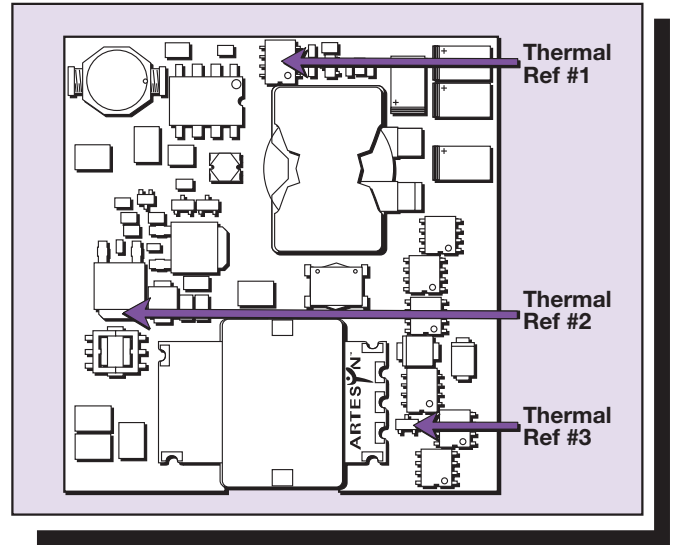

Figure 9 - Thermal Reference Points on EXB100
will determine the temperature of the thermal reference points shown in Figure 9. The maximum acceptable temperatures of the thermal reference points are indicated in the datasheet. The temperature at these points is limited to comply with Artesyn's stringent component de-rating criteria.
- During thermal testing, the module is mounted in the orientation shown in Figure 9. These tests provide an indication of the thermal performance of the products in an average application. Optimal thermal performance will be achieved by placing the synchronous rectifiers in direct line of airflow.